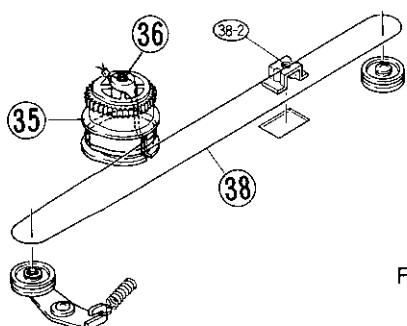

Figure 12
**(A) REPLACE THE WIRE ASSY (38) AS FOLLOWS:**
- Prior to mounting, Wire Assy (38) should be rolled two turns by Wheel (35) (Fig. 12).
4. Place the Guide (38-2) to the depressed part on Cabinet bottom (Fig. 12).